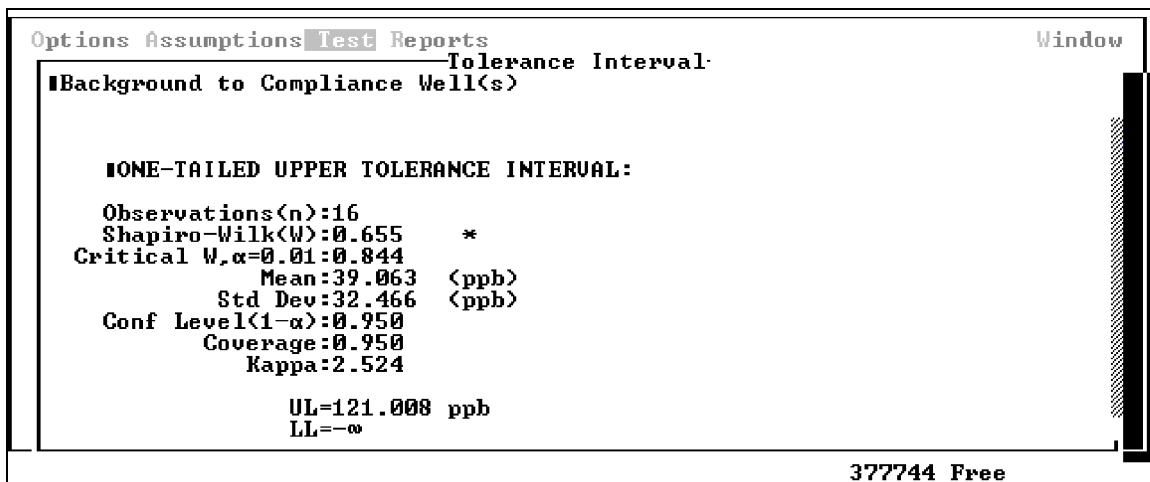

Figure 5-57. The Tolerance Interval Window.
7. Select the Define Background Data... option of the Test menu (Table 5-10) to select the data that the Tolerance Interval Limits will be computed on. Follow the instructions in Section 5.7.3 to select the background data. Upon selection of background data the Tolerance Interval is computed and displayed in the Tolerance Intervals window (Figure 5-57).